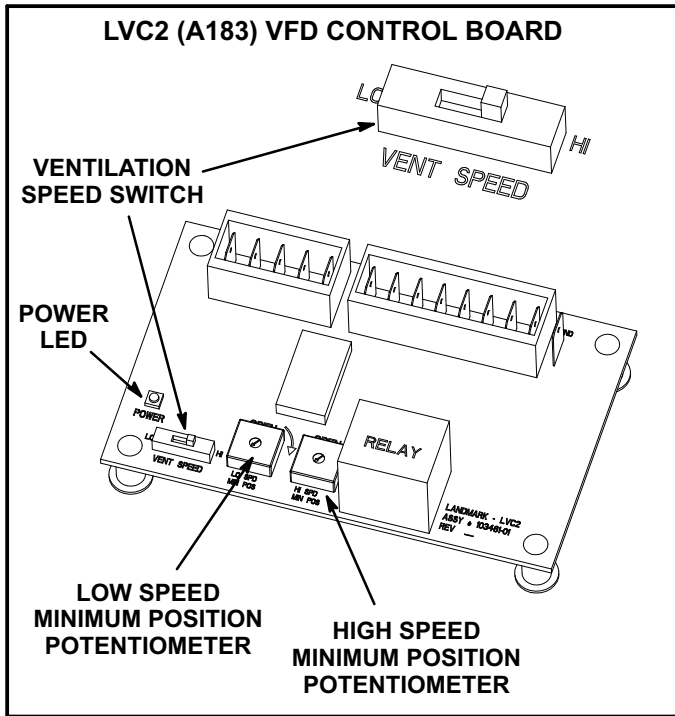
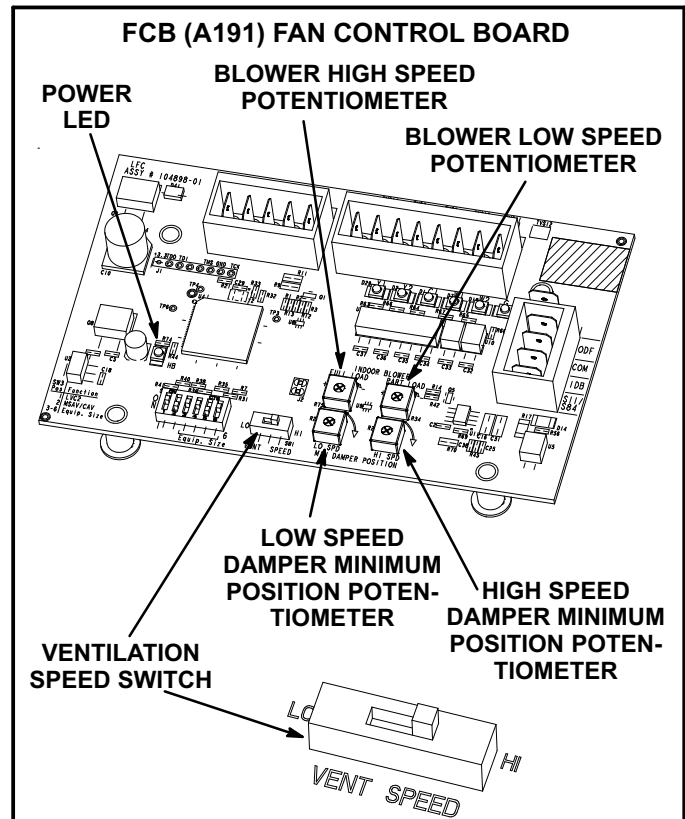

FIGURE 18
FIGURE 19
To save energy during ventilation, the blower speed can be set to low. This is accomplished by changing the ventilation speed switch on the VFD (figure 18) or FCB (Figure 19) control board to "LO".
To maintain required minimum ventilation air volumes when the unit is in the occupied mode, two minimum damper positions must be set. A high and a low speed potentiometer are provided on the VFD or FCB control board to adjust minimum damper position. See figure 18 and 19.
To save energy during ventilation, the blower speed can be set to low. This is accomplished by changing the ventilation speed switch on the FCB control board to "LO". See figure 19.
To maintain required minimum ventilation air volumes when the unit is in the occupied mode, two minimum damper positions must be set. A high and a low speed potentiometer are provided on the FCB control board to adjust minimum damper position. See figure 19.
5. Check the power LED on the board. See figure 19.
5. Check the power LED on the board. See figure 18.
8. When LVC2 24VAC thermostat blower (G) input and 24VDC power are present, check the LVC2 low and high speed outputs. The LVC2 uses inverse logic to enable the blower; 1VDC will be read at the enabled blower speed terminal. See table 7.